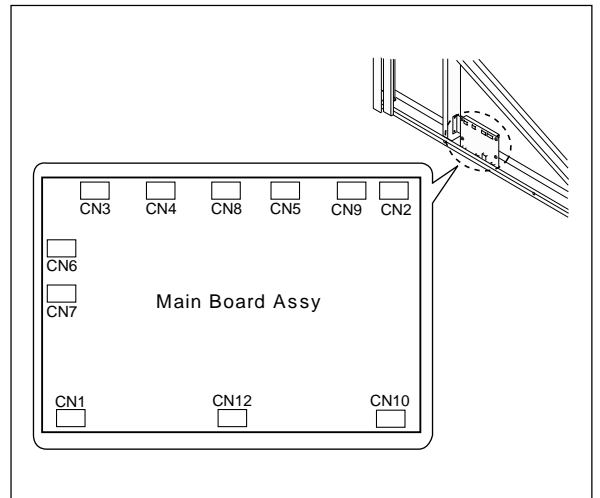

Fig. 3
### 2) Remove the Main Board Assy. (See Figs. 3 and 4.)
1. Disconnect the connectors connected to the Main Board Assy shown in Fig. 3.